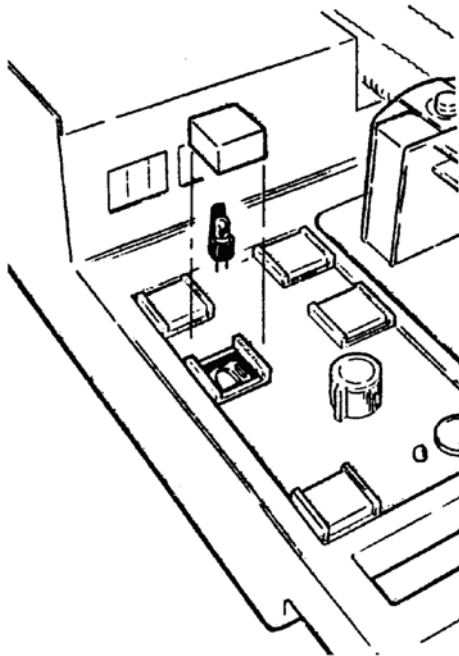

Figure 2-14. Switch lamp replacement.
- (1) Lift the button cap out of its mount. It is a snap-fit (figure 2-14).
- (2) Depress the white inner button base so that it is in the ON position. It will expose a grip tab behind the bulb. Using a needle nose pliers, pull up on this tab to release the bulb.
- (3) When placing the new bulb, be careful to avoid bending the bulb.